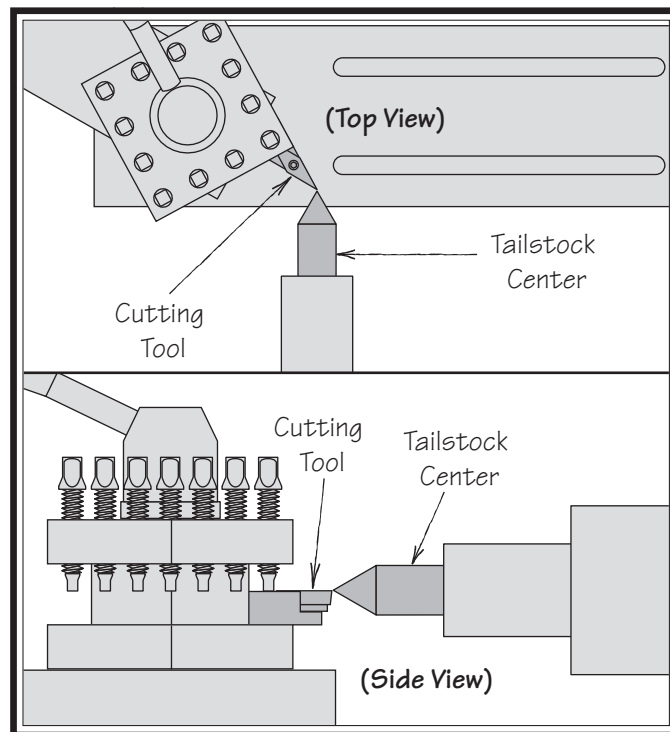

Figure 61. Cutting tool tip aligned with tailstock center.
- Adjust the height of the cutting tool so that the tool tip is aligned vertically and horizontally with the center tip, as shown in **Figure 61**.